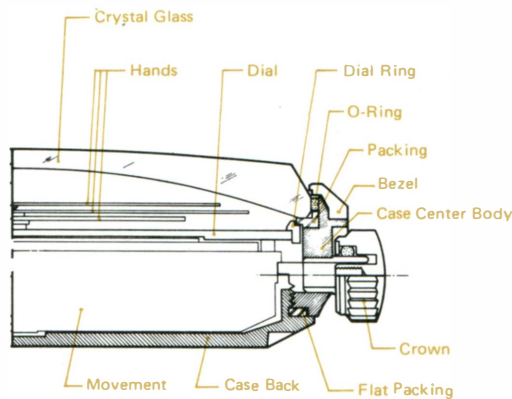

Fig. 2
(11) Push in the bezel
- Use the Citizen Multi-Purpose Watchcase Opener (Fig. 2).